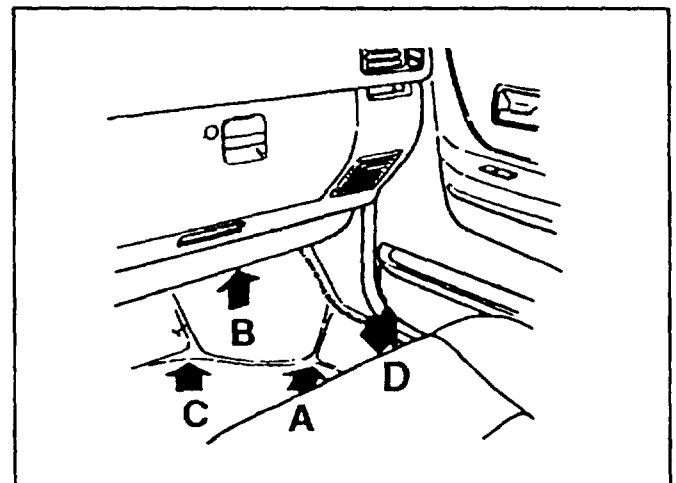

Figure 3: Possible Water Leak Areas
6. Note which area the water enters the vehicle. Refer to the appropriate location's repair procedure. **Figure 3.**